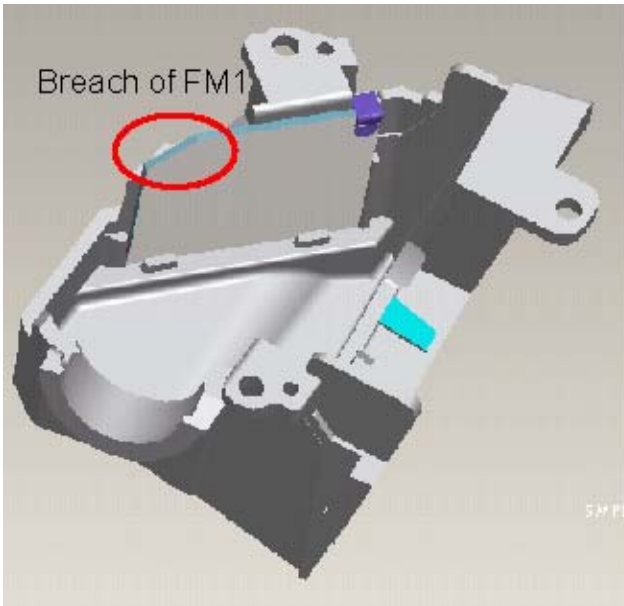

Fig 5-1
I. FM1 must be placed on datum surfaces well and breach of FM1 must be face to inside(Fig 5-1)。